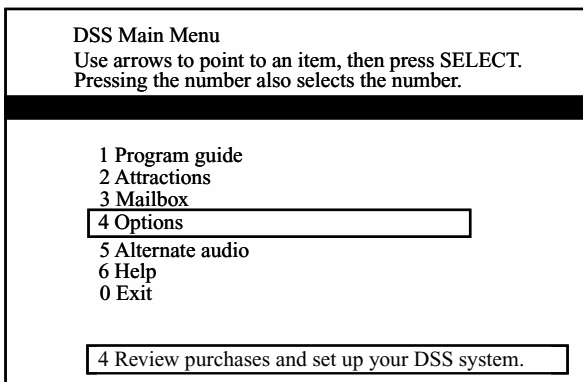

FIGURE 6-12 A DBS main menu that is now in the options mode. (Courtesy of Thomson Multimedia.)
- Select “Options” from the “DBS Main Menu.” See Fig. 6-12.